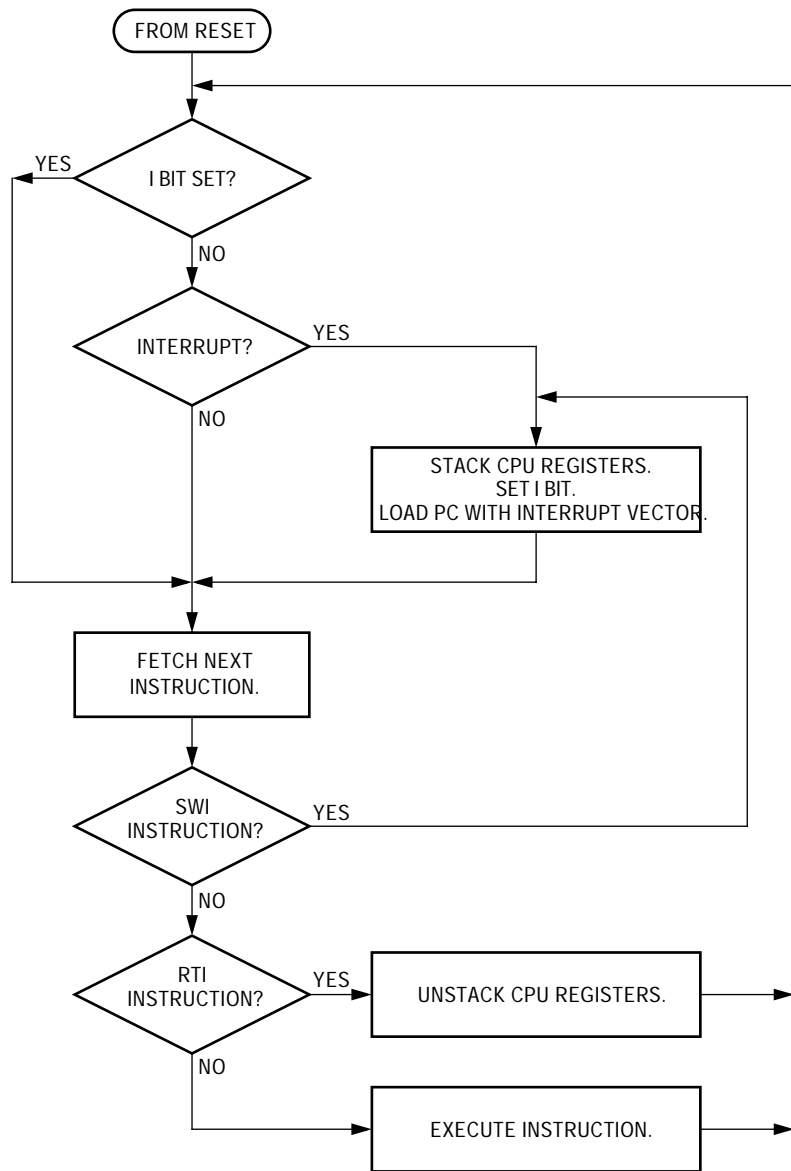

Figure 2. IRQ Interrupt Flowchart
NOTE: *The interrupt mask (I) in the condition code register (CCR) masks all interrupt requests, including external interrupt requests. (See Figure 2).*